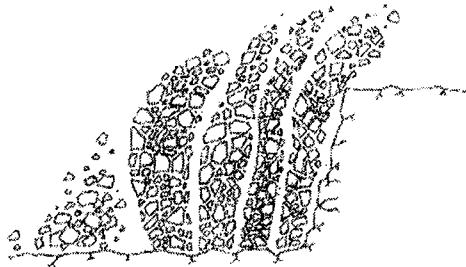

Figure 4
- b. Figure 4 and 5 show multi row blasting. Describe what are they all about.